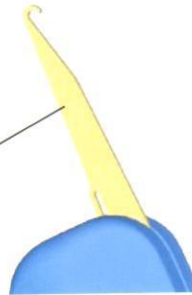

Fig.3
- 5.When disassemble cable,turn the line hook, pull out the cable along vertical direction. See fig.3;